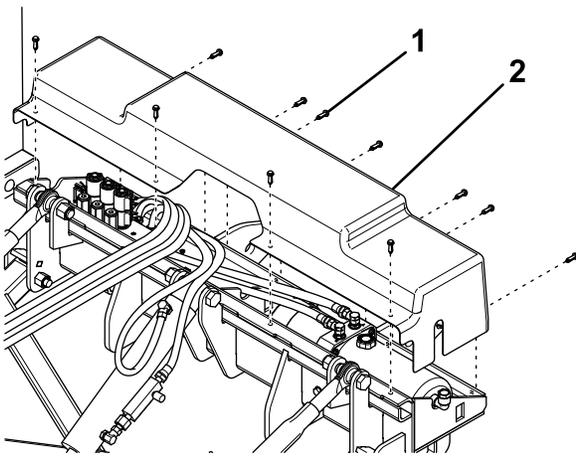

Figure 13
- Attach the coupler assembly cover using 11 push rivets (Figure 13).